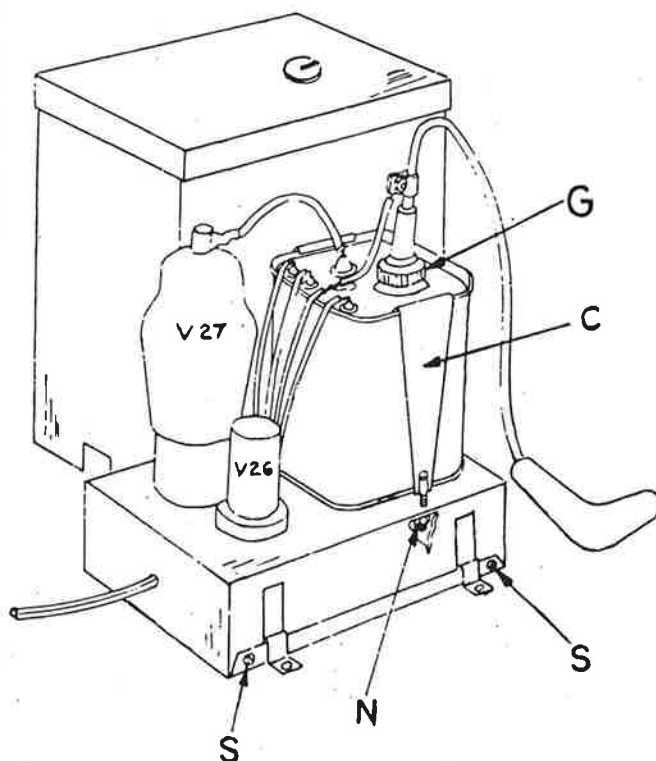

Figure 5-2—H-V Sealed Can Replacement
b. REPLACEMENT OF HIGH-VOLTAGE SEALED UNIT: (See figure 5-2).